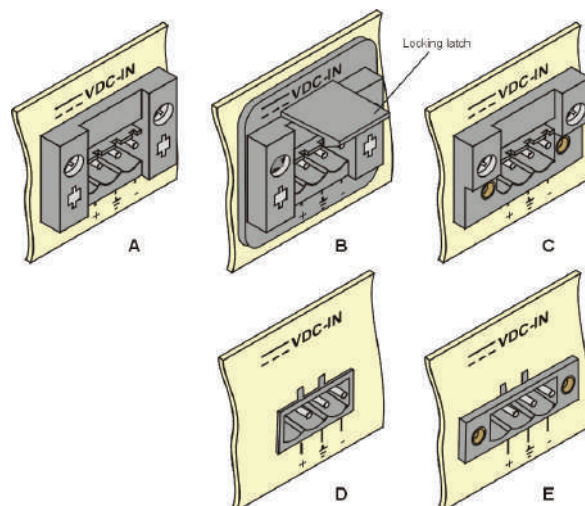

Figure 1. TB DC Input Connector Types Appearing on Unit Panels
Certain DC-powered units are equipped with a plastic 3-pin VDC-IN power input connector, located on the unit rear panel. Different variations of the connector are shown in *Figure 1*. All are functionally identical.
2. If the unit's VDC-IN connector is type B, lift the locking latch (see Figure 1).